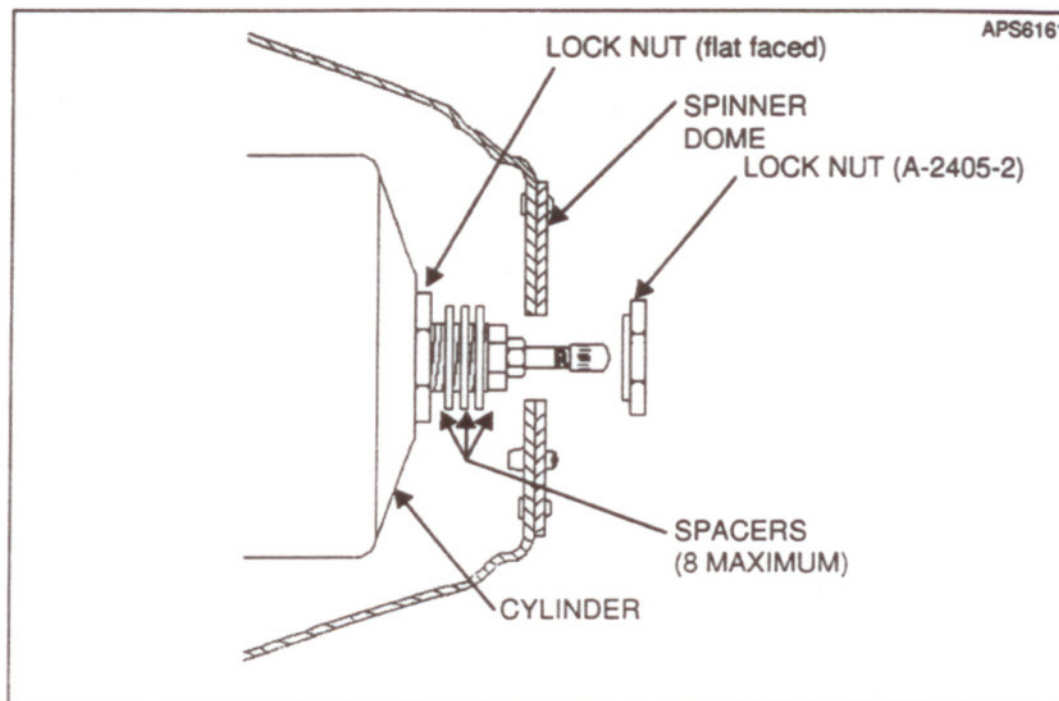
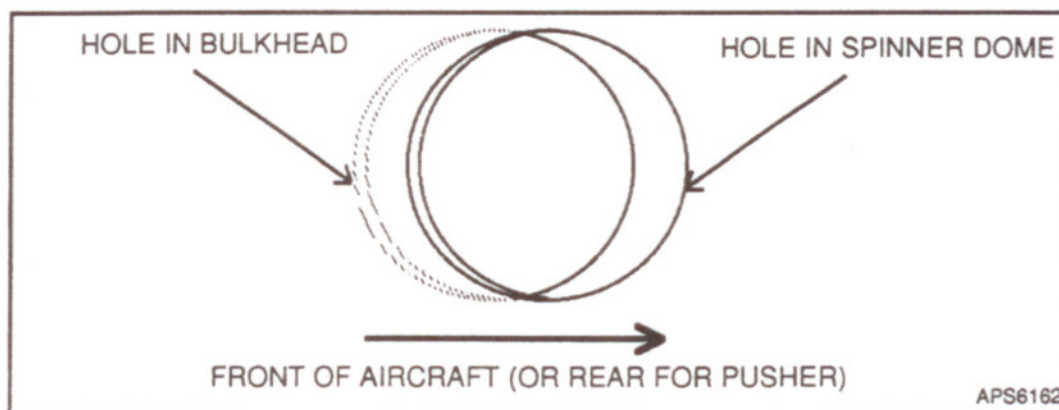

Figure 307 - Two-Piece Spinner Mounting (Procedure 2)
Figure 308 - Spinner Dome to Bulkhead Mounting Hole Alignment
NOTE 1: A spinner dome which is to be installed using Procedure 2 may be identified by the lock nut at the top of the cylinder. The lock nut will be flat-faced as illustrated in Figure 307.
- (1) Refer to Figure 307. Place spacers on the low pitch stop lock nut. Up to eight spacers may be used. Install spacers, then check spinner fit. Spinner is correctly spaced when the holes in the spinner dome are misaligned $\frac{1}{4}$ - $\frac{1}{3}$ of their diameter toward the front of the aircraft, or rear in a pusher installation (See Figure 308). Add or remove spacers to achieve this alignment.
- (2) Install spinner dome. Push spinner dome aft to align the spinner mounting holes with those of the bulkhead or adapter ring. Secure the spinner to the bulkhead or adapter ring with screws and washers. To avoid damaging the aircraft cowling, screws must not extend more than three threads past the bulkhead nutplates.
- (3) Install the lock nut (that has a shoulder and safety wire holes) on the low pitch stop. Refer to Table 301 for lock nut torque.
- (4) Safety wire the lock nut to each of the two screws on the flat face of the spinner dome surrounding the lock nut.
- (5) Secure the spinner dome cap to the spinner dome with flat head screws.